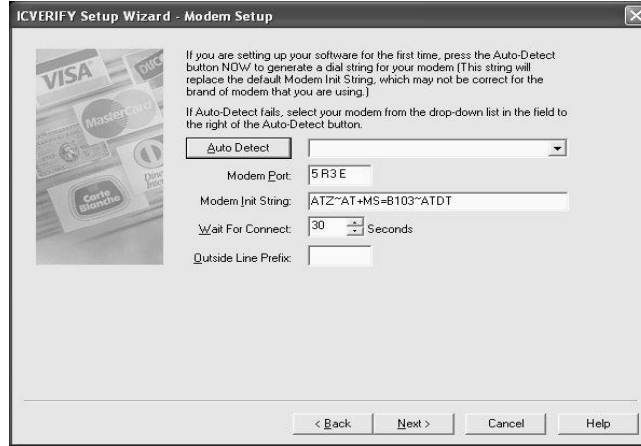

Figure 4.0.2-1: Modem Setup
42. Stop once you reach the “Modem Setup” screen (see **Figure 4.0.2-1** below).